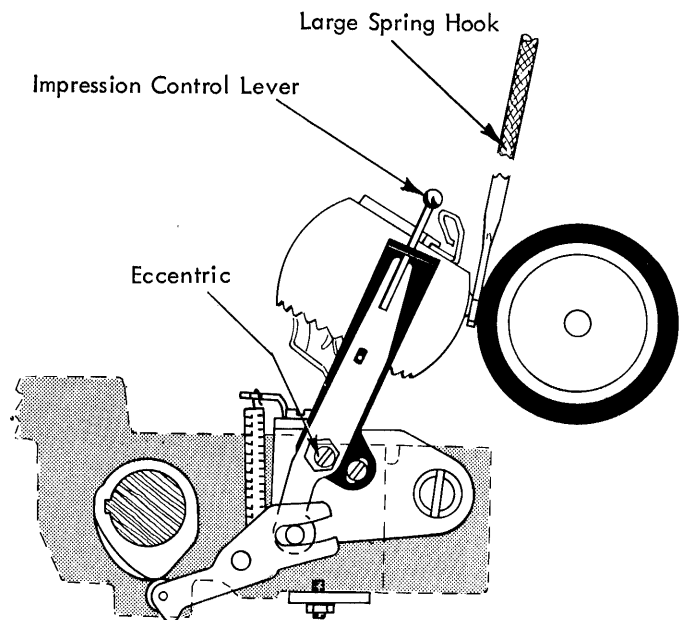

FIGURE 142.15 Free Flight
- b. **Free Flight** - Set the impression control lever at 5 and the copy control lever at 4 and hand-cycle the machine until the print cam follower is resting on the high point of the print cam. At this point, there should be .035" of free flight between the platen and the center of a half-cycled "home" character. Adjust the eccentric on the impression control lever for this clearance (Fig. 142.15). Keep the high part of the eccentric toward the front of the machine.